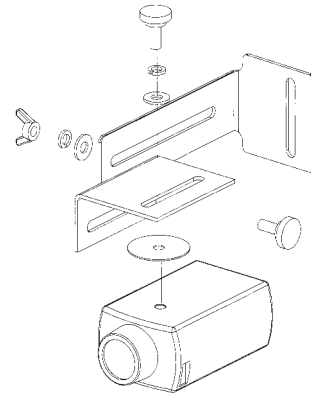

Figure 5
6. Adjust camera bracket to proper angle and mount camera to camera bracket. See **Figure 5**.